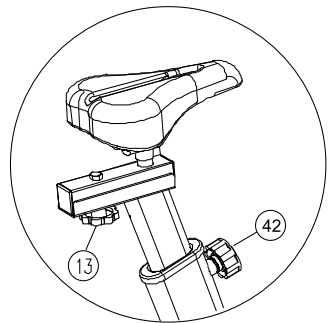

Figure 11
11. Adjust the seat cushion height by turning the adjustment knob (Part 42), which offers multiple height settings, as shown in Figure 11.